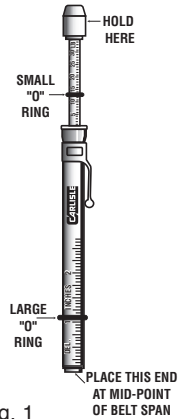

Fig. 1
1. Measure the span length of the drive. (See Fig. 1). Set the large "O" ring at $1/64$ " for each inch of belt span. For example, set the large "O" ring $1/4$ " for a span length of 16", at $1/2$ " for a span length of 32", at 1" for a span length of 64" etc.